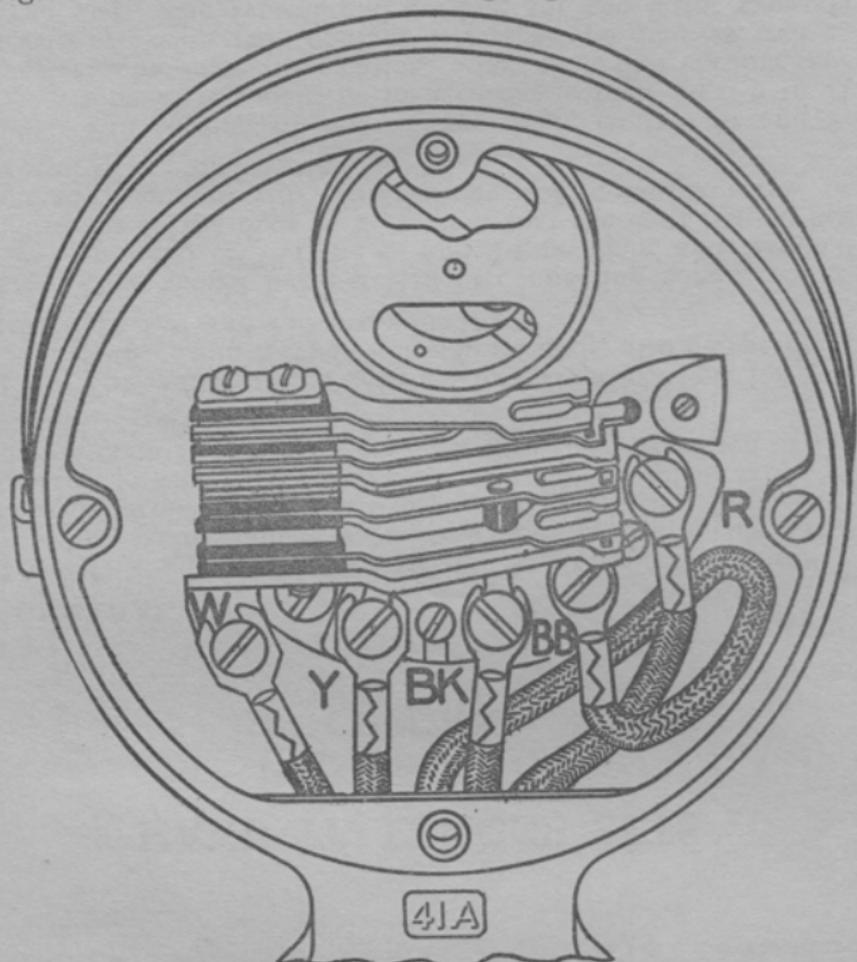

Fig. 12—Dial Cording—4- and 5-Type Twin Contact Dials
1.05 The cording of sets having single contact 4- and 5-type dials should be in accordance with Figs. 6 to 11 inclusive. The same information, other than dial cording, applies to sets with twin contact 4- and 5-type dials as well as 6-type dials. The typical dial cording for the latter types is shown in Figs. 12 and 13. The same general principles of cording should be followed in the case of sets having a different number of dial conductors.
Figs. 12 and 13 are added following Fig. 11.